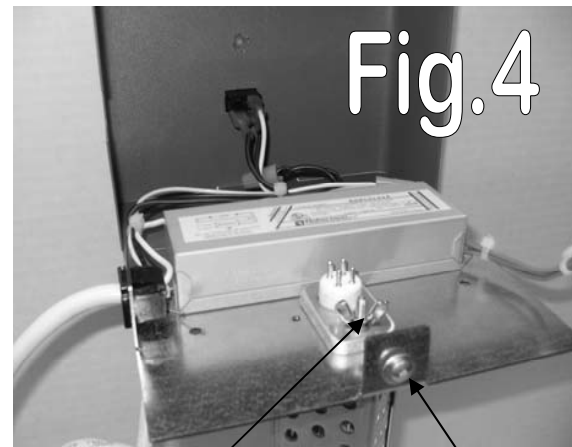

Fig.4
6. Ensure ceramic end of lamp opposite connector pins securely rest in grommet end of PCO module. Secure lamp to unit with supplied 8-32 wing nut (Fig 4).